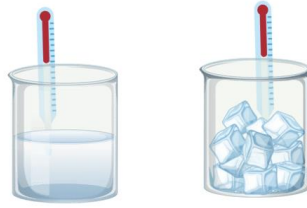

Fig. 2.25 Place the thermometer in both container
Step 2 – Measure and record the initial temperature of both containers using a thermometer as shown in Figure 2.25.